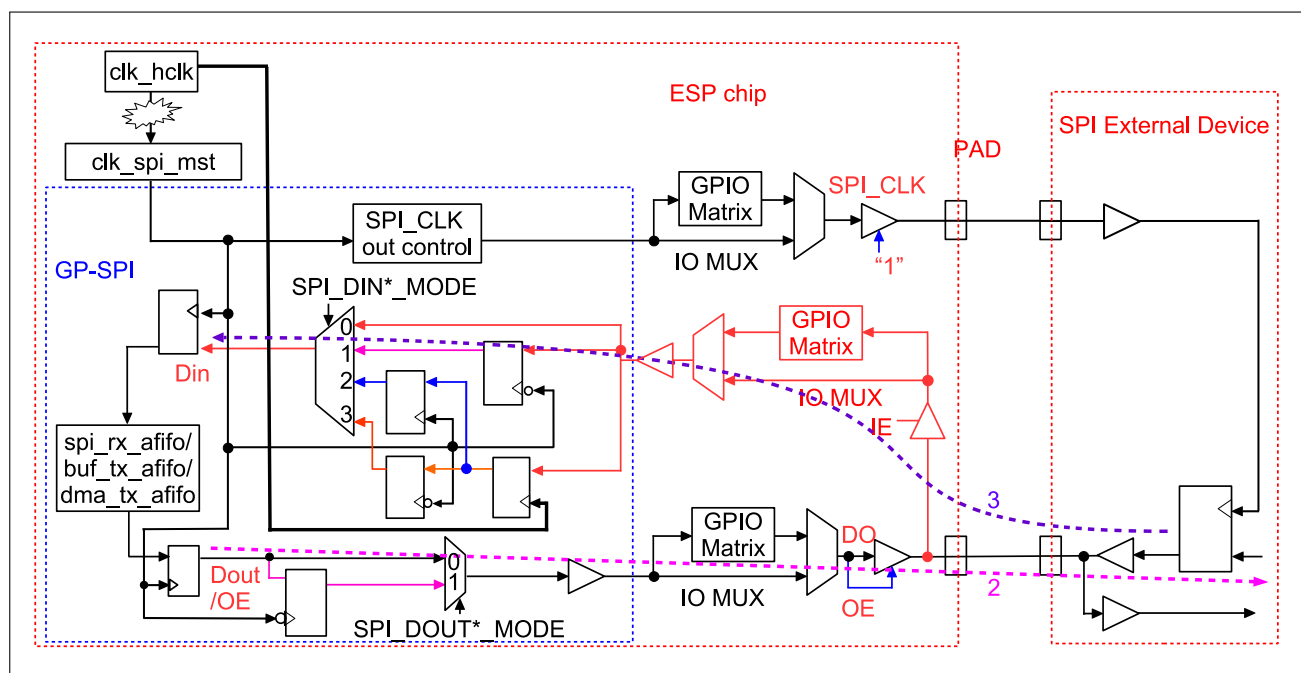

Figure 29.8-1. Timing Compensation Control Diagram in GP-SPI as Master
Figure 29.8-1 shows the timing compensation control for GP-SPI2 as master, including the following paths:
- “IN”: data input path of GP-SPI2 (see line 3 path in color purple in Figure 29.8-1). The input data from an external SPI device passes through GPIO matrix or IO MUX, then is adjusted by the Timing Module (see Figure 29.5-2) and finally is stored into `spi_rx_afifo`.
- “OUT”: data output path of GP-SPI2 (see line 2 path in color rose-red in Figure 29.8-1). The output data is sent out to the Timing Module, passes through GPIO matrix or IO MUX and is then captured by an external SPI device.